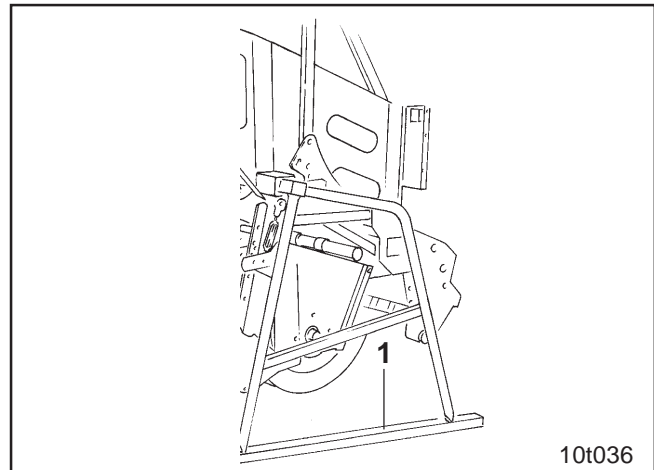

Fig 5.8
- outer supporting leg (Fig. 5.8/1),